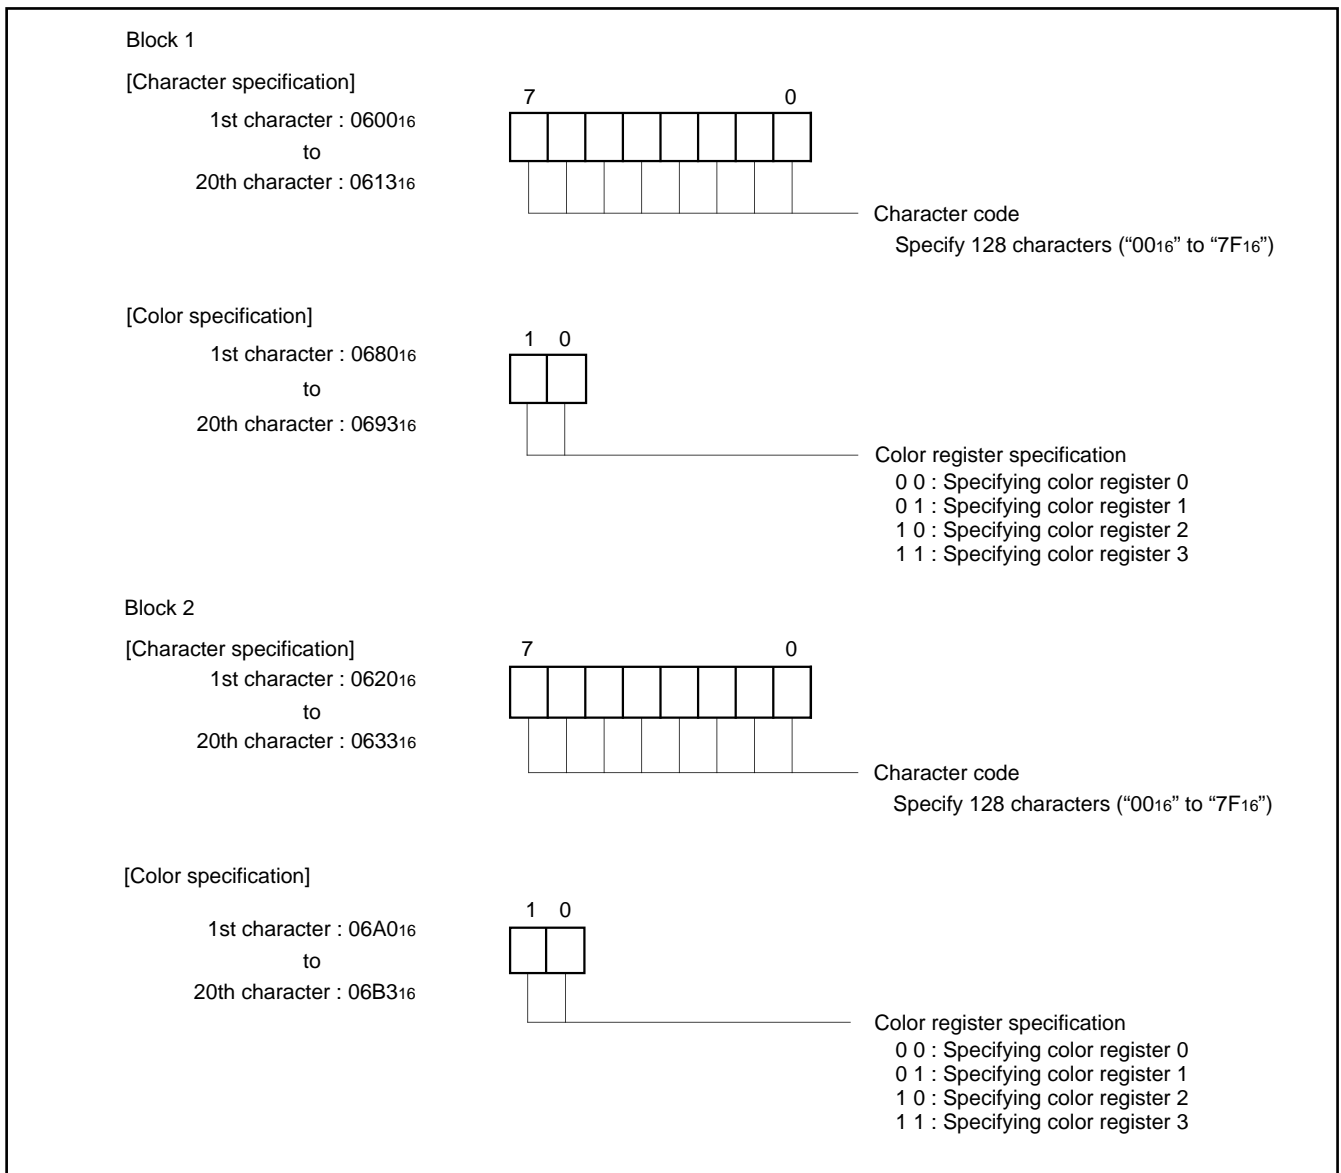

Fig. 33. Structure of CRT display RAM
For example, to display 1 character position (the left edge) in block 1, write the character code in address 0600₁₆ and write the color register No. to the low-order 2 bits (bits 0 and 1) in address 0680₁₆. The color register No. to be written here is one of the 4 color registers in which the color to be displayed is set in advance. For details on color registers, refer to (5) Color Registers. The structure of the CRT display RAM is shown in Figure 33.